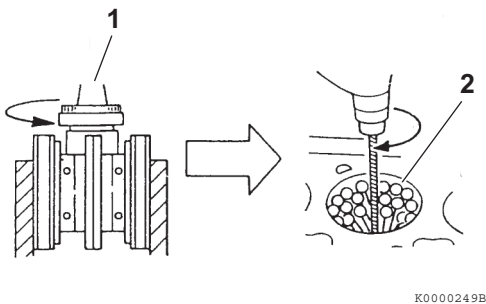

Figure 6-83
2. **Honing** - Minor cylinder imperfections may be corrected by using a rigid cylinder hone (**Figure 6-83, (1)**). Be sure not to exceed the maximum cylinder bore specification.
Deglazing - A used cylinder that did not require boring or honing, should always be deglazed with a ball hone (**Figure 6-83, (2)**) before installing new piston rings. This will properly prepare the cylinder surface to allow new piston rings to seat properly.
- Use a 300-grit hone at 300 - 1200 min⁻¹ (rpm) (**Figure 6-83**).